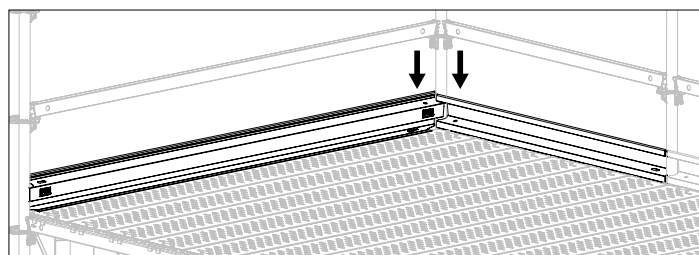

Fig. A12.04b
5. Lower both Toeboards UPY simultaneously. (Fig. A12.04b)